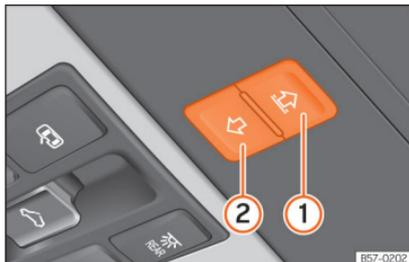

Fig. 105 On the interior roof lining: sunshade blind buttons.
Buttons **»» Fig. 105 1** and **2** have two levels. The first level opens or closes the sun blind fully or partially.
- *Sun blind*: within approximately 5 seconds of activating the roll-back function, press and hold button »» Fig. 105 ⓐ until the blind is fully closed.